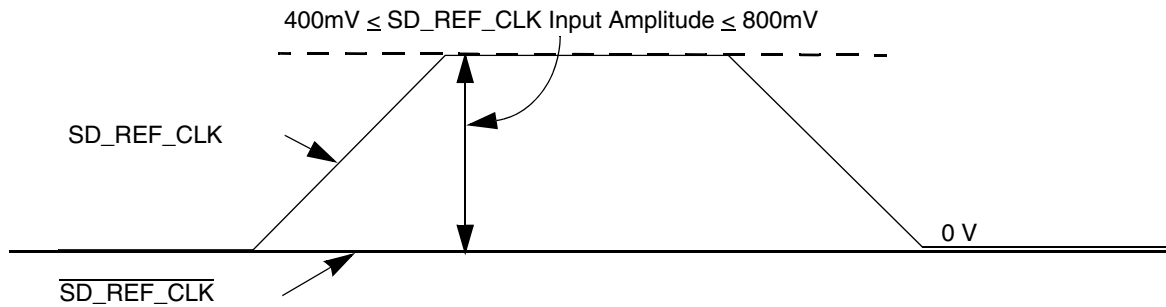

Figure 39. Single-Ended reference clock input DC requirements
- The SD_REF_CLK input average voltage must be between 200 and 400 mV. Figure 39 shows the SerDes reference clock input requirement for single-ended signaling mode.